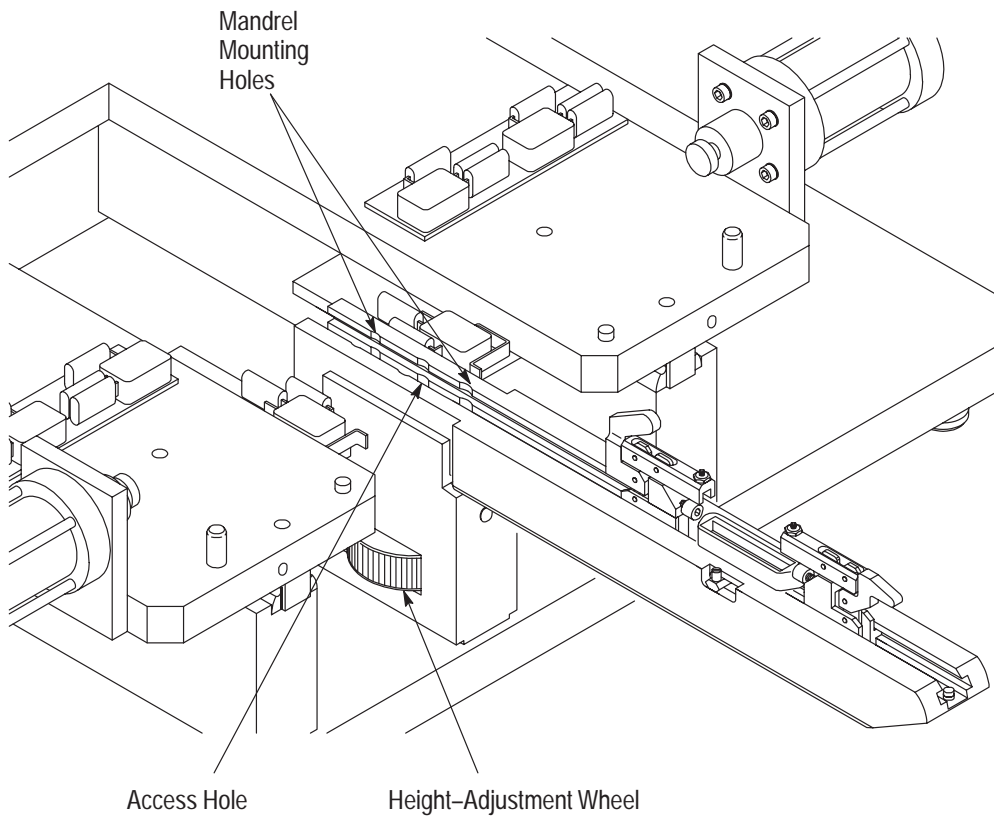

Figure 9
### 3.5. Mandrel Height Adjustment (Figure 9)
1. Using a 5/32-in. hex wrench, loosen the locking screw on the mandrel mounting area. The locking screw is accessible through a hole in the mandrel, as shown in Figure 9.